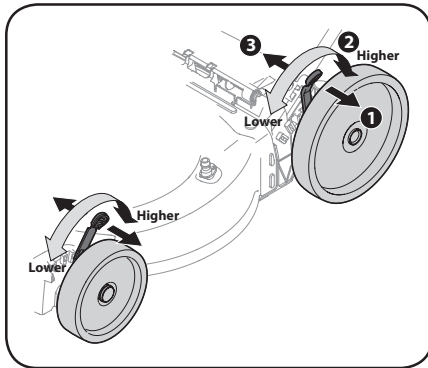

Figure 2-14
- Pull the height adjustment lever towards wheel (unit will tend to fall when lever is moved outward). See Figure 2-14.